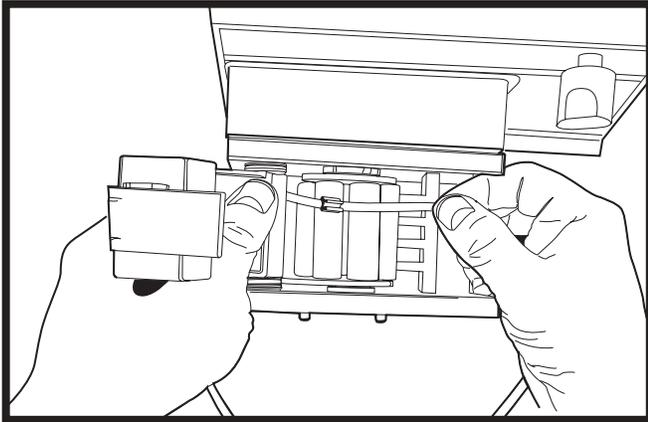

Figure 6, Insert one end of the tubing over rollers.
2. From the top of the pump head, insert one end of the tubing over rollers. While holding occlusion bed, open spring loaded safety guard enough so that tubing can be inserted between guard and slotted tubing retainer (Figure 6).